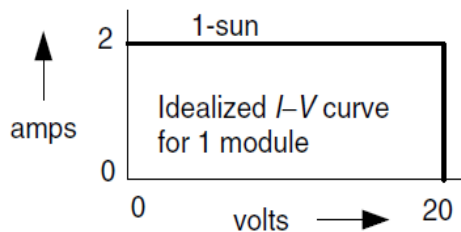

Fig. Q5
- b. Four identical PV modules, each with an idealized 1-sun, current-voltage (I-V) curve shown in Fig. Q5 are to be connected together to deliver power to a load.